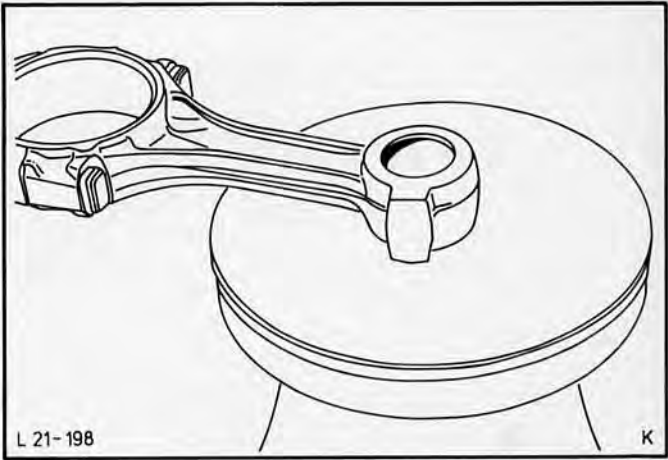

Fig.127. Heat pin bore in connecting rod.
9. Heat connecting rod end using a hotplate, as shown in Fig.127, up to a temperature of 260° to 400°C. Mark piston pin bore with a thermochromatic coloured pencil (Faber-Castell 2815) before heating so that the temperature can be monitored. When the temperature reaches the figure indicated on the pencil cover, the mark on the pin bore of the connecting rod will change to the same colour as the pencil cover.